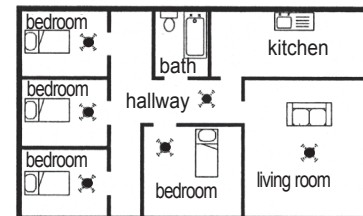

figure 1
- See figure 1 & 2 for minimum and maximum protection.